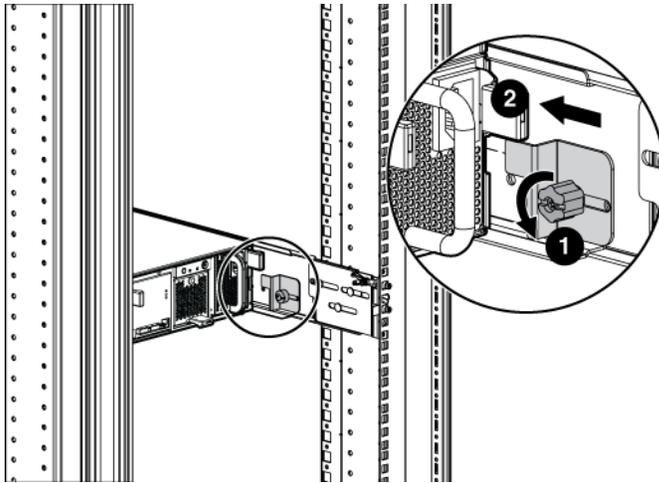

Figure 11 Securing the rear of the enclosure (view from rear of rack)
5. At the rear of the rack, loosen the thumbscrew on the shipping retaining bracket (1, Figure 11) and slide the bracket forward (2) until the tab engages the slot in the chassis. Tighten the thumbscrew on the bracket.